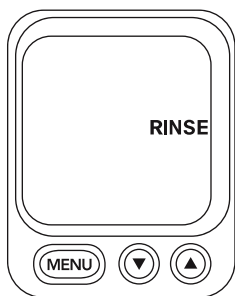

figure 11
4. Press Rinse. During the Rinse cycle, only the Rinse button will be lit. The control panel will display the word RINSE (see figure 11).